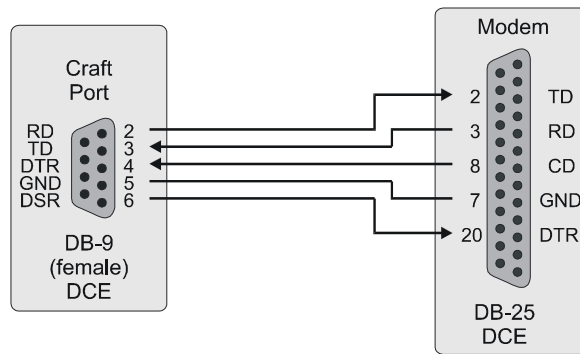

Figure 4. Front Panel Craft Port to Modem Connections
Using a cable that connects the Data Terminal Ready (DTR) signal will ensure automatic log off when the terminal is unplugged. When connecting the RS-232 port to a modem, a null modem cable should be used. Ensure that the modem's Carrier Detect (CD) and DTR functions are enabled. This will allow the modem connection to terminate properly when the PMU or PAU drops Data Set Ready (DSR) and the unit will log off when the modem drops CD. The following connections are required to make the modem work correctly (see Figure 4, "Front Panel Craft Port to Modem Connections," on page 11).